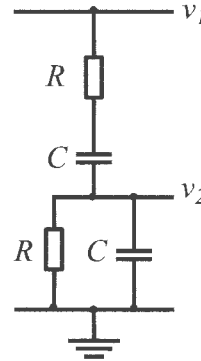

Figure 3 (3)
- d. Given a storage time of $t_s=450ns$ when the "off" control voltage $V_I=-3V$, what value of speed-up capacitor, C_b , is required to significantly reduce the turn-off time? You may assume the off-state base-emitter voltage $V_{beOFF} = 0V$. (4)
- e. Sketch a circuit diagram showing how a Schottky diode may be used to limit the level of saturation attained in a transistor switch circuit. (2)
3. a. State the two simultaneous amplitude and phase conditions required to produce a linear oscillator circuit (i.e. the Barkhausen criterion). (2)
- b. Show that the transfer function (v_2/v_1) of the Wien bridge network shown in Figure 3 is given by,
- c. Derive an expression for the frequency at which the transfer function of part (b) is purely real. Determine the value of v_2/v_1 at this frequency. (4)
- d. Draw a circuit diagram to show how the network of Figure 3 can be used with a suitably configured operational-amplifier to form a Wien bridge oscillator. Suggest suitable values for all the components in your circuit that are necessary to achieve an oscillation frequency of 1kHz. You do not have to use preferred values in your answer but the components value you choose should be practical. (6)